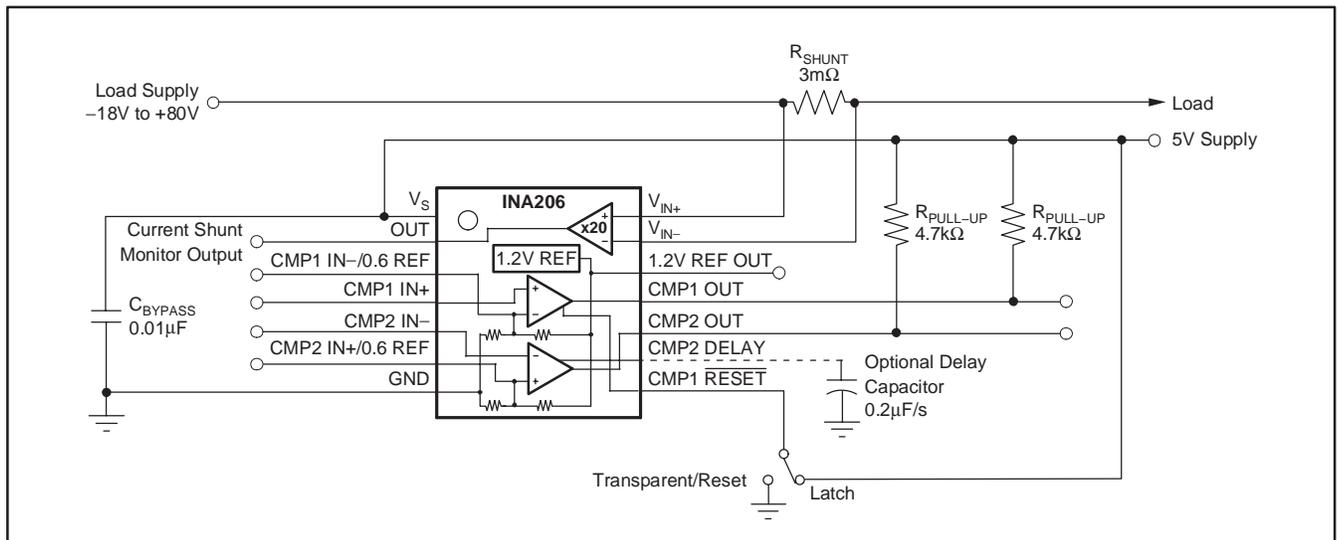

Figure 2. INA20x Basic Connection
Figure 2 shows the basic connection of the INA206, INA207, and INA208. The input pins, V_{IN+} and V_{IN-} , should be connected as closely as possible to the shunt resistor to minimize any resistance in series with the shunt resistance.
The Comparator 2 programmable delay is controlled by a capacitor connected to the CMP2 Delay Pin; see Figure 2. The capacitor value (in µF) is selected by using Equation (4):